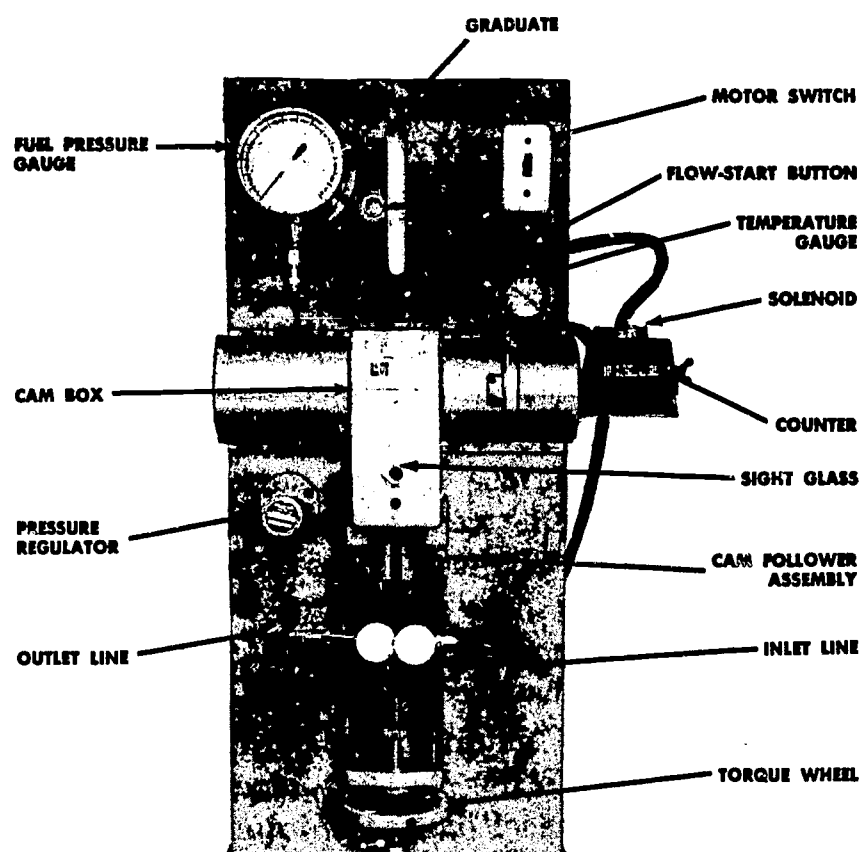

Fig. 9 Injector test stand.
INJECTOR TEST STAND -- Figure 9 shows a typical test stand for calibrating and testing PT fuel injectors. This test equipment will flow-test the complete injector assembly by measuring fuel delivery. The injector is actuated under controlled conditions which are very close to actual operating conditions. The test stand counts injection strokes, supplying fuel at a specified pressure, thereby measuring the delivery in a glass graduate.
2. Fill the cambox, (see Figure 9), with three inches of SAE 30 non-detergent lubricating oil. Refill when oil level drops to sight glass.
Next, install the proper adapter over assembled injector with the push rod extension as required. **NOTE:** Refer to Figure 9 when studying this procedure.